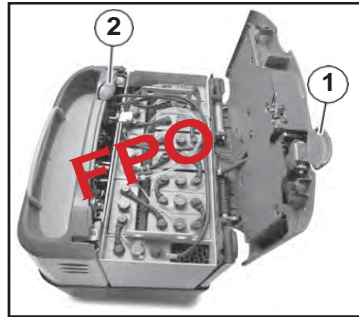

Fig. 20 Battery
3. Undo the battery cover latch (Fig. 20, ①) and open it. Secure it in opened position if necessary.
4. Remove the battery connector (Fig. 20, ②) and connect it to the charger.
7. Attach the battery connector (Fig. 20, ②) to the truck.